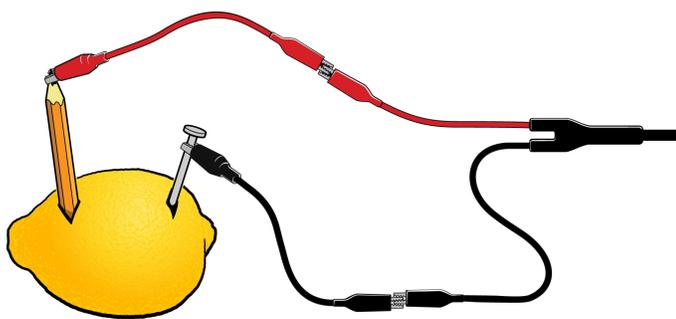

Figure 1
2. Attach the red Voltage Probe lead to one alligator clip and the black lead to a second alligator clip as shown in Figure 1. You will be attaching the alligator clips to the test materials during this experiment in order to prevent corrosion of the Voltage Probe leads.